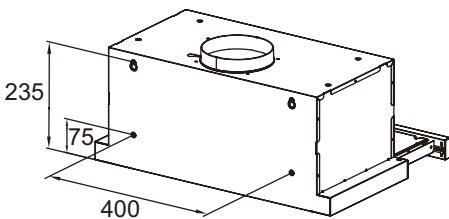

Fig.3
1. According to Fig.3, use an electric impact drill to make 4 holes with a diameter of 10 mm and a depth of 50 mm at the corresponding positions on the wall where the range hood is installed, embed the plastic expansion tubes.